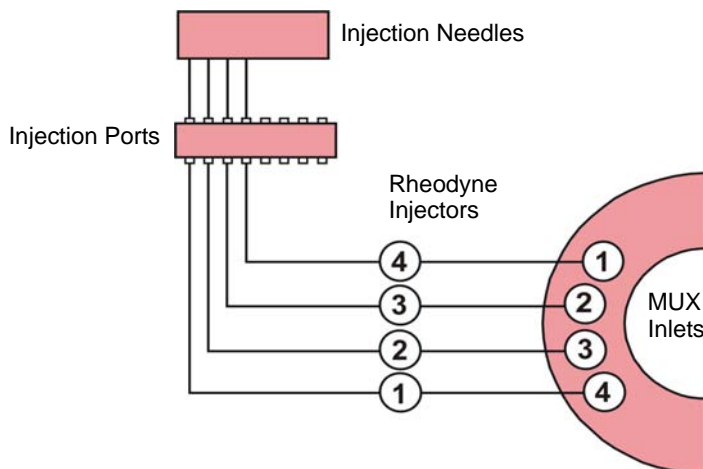

Figure G-6 4 injectors to 4-way MUX
2. The following schematic diagrams (Figures G-6 and G-7) show the LC connections from the outlets of the Gilson injector port assembly to the source inlets of a 4 or 8-way MUX.
The Gilson numbering system is reverse to that of the MUX and MassLynx (Figures G-6 and G-7). With the 4-way plumbing, MUX inlets 1 to 4 correspond to well positions 1A to 1D respectively, and subsequently, 1 E to 1H of a 96-well microtitre plate.